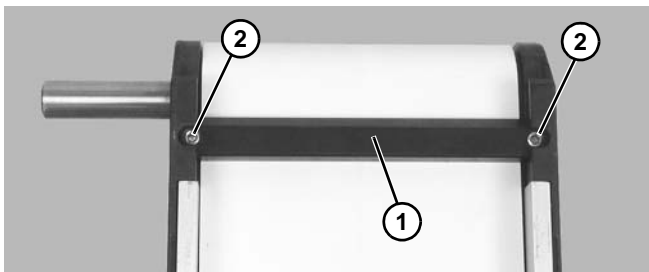

**Figure 33**
1. Place temporary support stands (**Figure 33, item 1**) at both ends of the conveyor.
2. Remove mounting brackets (**Figure 33, item 2**) from one side of conveyor. (Reverse steps 3 & 4 of “Mounting Brackets” section beginning on page 12.).
1. Ensure temporary support stands (**Figure 33, item 1**) are placed at both ends of the conveyor.